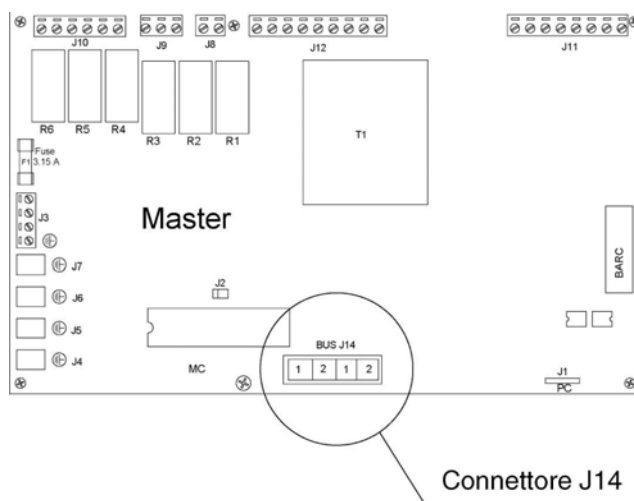

Figure 25
- Disconnect the 4-pole connector J14 from the Master card (see Figure 25);